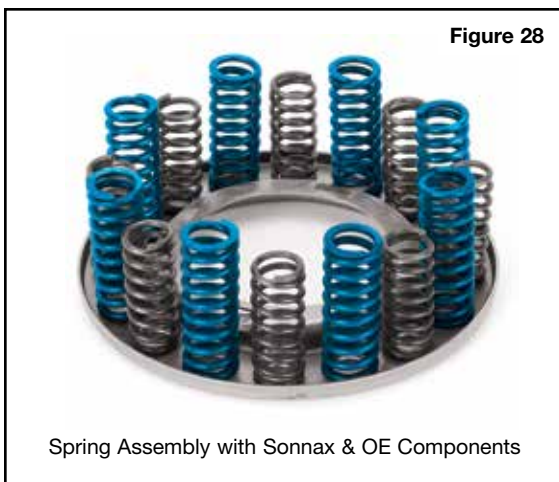

Figure 28
- a. Install 8 blue Sonnax springs making sure they fit over OE crimps (**Figure 28**)